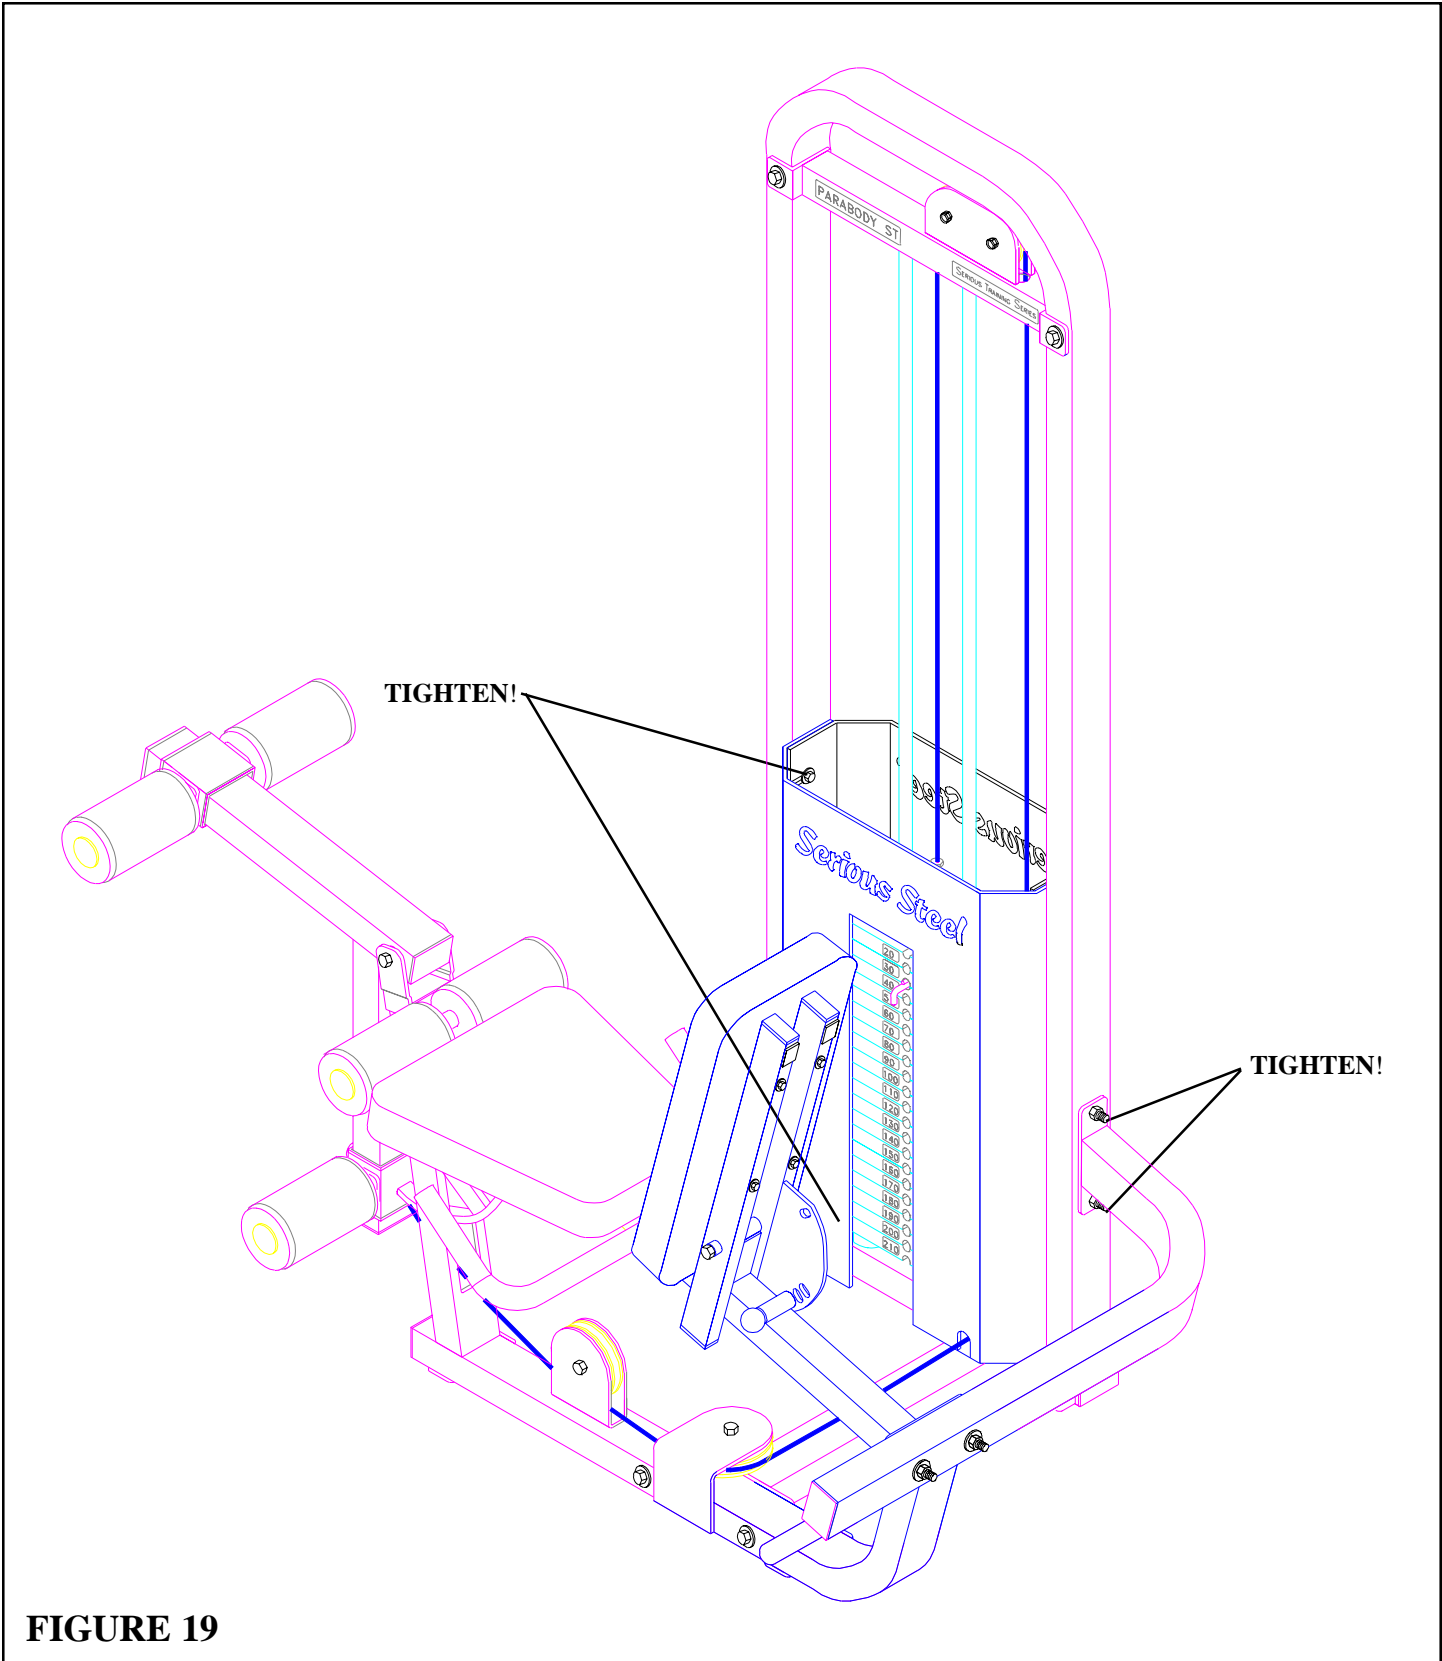

**FIGURE 18**
- Assemble FRONT SHROUD (16) over the protruding bolts, then assemble the REAR SHROUD (17) inside of the FRONT SHROUD (16). (NOTE: Make sure shrouds are underneath the washers.) See FIGURE 18.